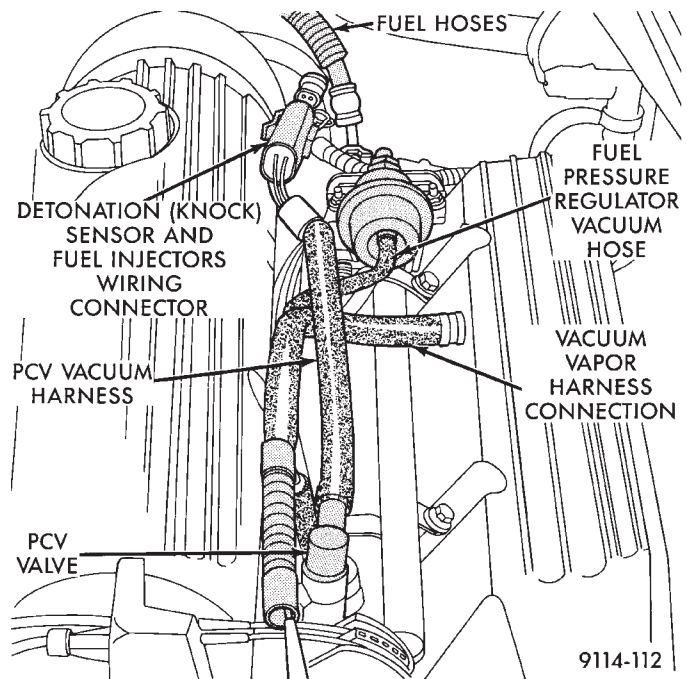

Fig. 6 Electrical and Vacuum Hose Connection
- (4) Remove accelerator and speed control cables.
- (5) Disconnect automatic idle speed (AIS) motor and throttle position sensor (TPS) wiring connectors.
- (6) Disconnect vacuum hoses from throttle body.
- (7) Disconnect Detonation Sensor, Fuel Injector Wiring Connector, Wiring Connector.
- (8) Remove supply and return hose at fuel tube assembly (Fig. 6).
- (9) Using 2 wrenches, one on the fuel pressure regulator and the other on the fuel return tube nut loosen tube nut. Open fuel tube clip and remove fuel tube.
- (10) Disconnect fuel pressure regulator vacuum hose from regulator.
- (11) Remove fuel pressure regulator to fuel rail attaching nuts (2).
- (12) Remove fuel pressure regulator from fuel rail.
- (13) Remove PCV vacuum harness, brake booster, and vacuum vapor harness from intake manifold (Fig. 6).